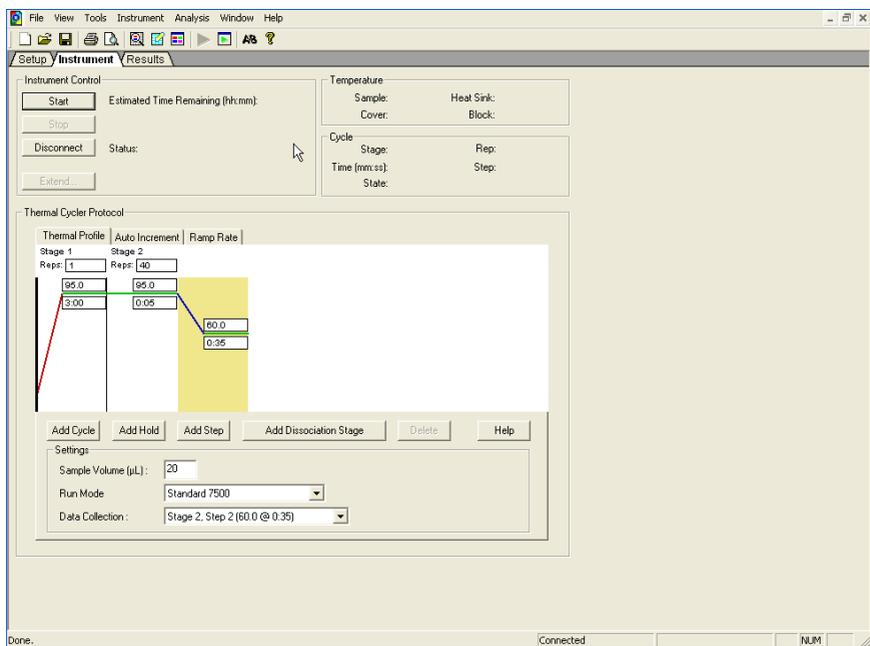

Figure 37. Adjusting the thermal profile (SDS Software Version 1.4).
- On the thermal profile, delete the first step by pressing **Shift** and clicking within the Stage 1 hold step (50°C for 2 min). After the hold step is selected, press the **Delete** key. Change the holding times to those in Table 13. Be sure to change the Sample volume to **20 µL** and select the correct run mode (**Standard 7500**) (Figure 37, next page). Data acquisition should be performed during the combined annealing/extension step. If using software version 1.2.3, be sure to uncheck the box **9600 Emulation**.